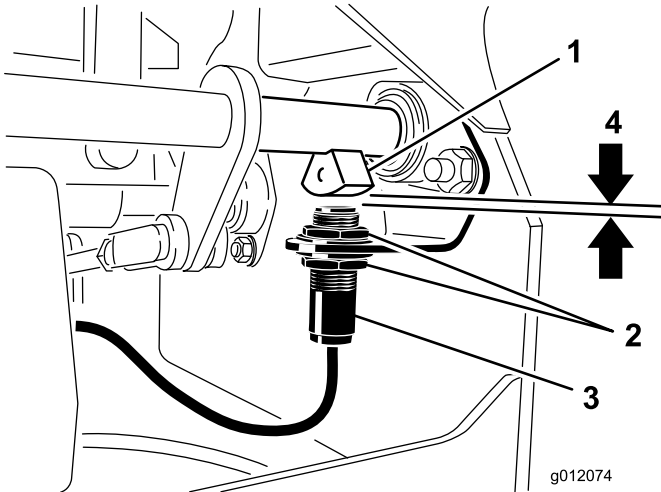

Figure 55
4. Move the switch up or down on the bracket until the distance between the brake shaft sensor and the switch plunger is 5/32 inch (3.9 mm) (Figure 55).